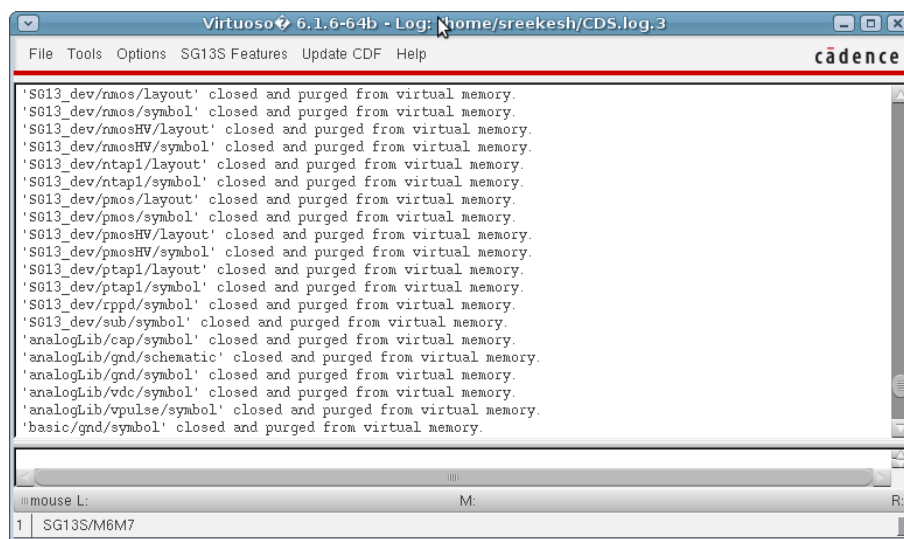

Fig. 1 – Close and purge
- Go to the main Virtuoso window and then: **File → Close Data → All → OK**. Now you can see in the main Virtuoso window the list of all files which have been closed and purged from memory. (Refer **Fig. 1**).